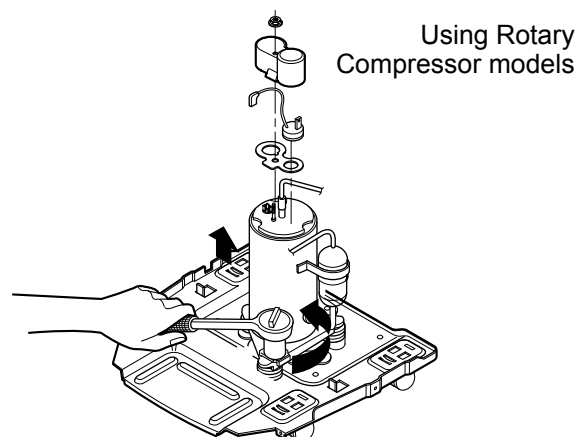

Figure 28
3. Remove the nuts and washers which fasten the compressor. (See Figure 28)
4. Remove the compressor. (See Figure 28)